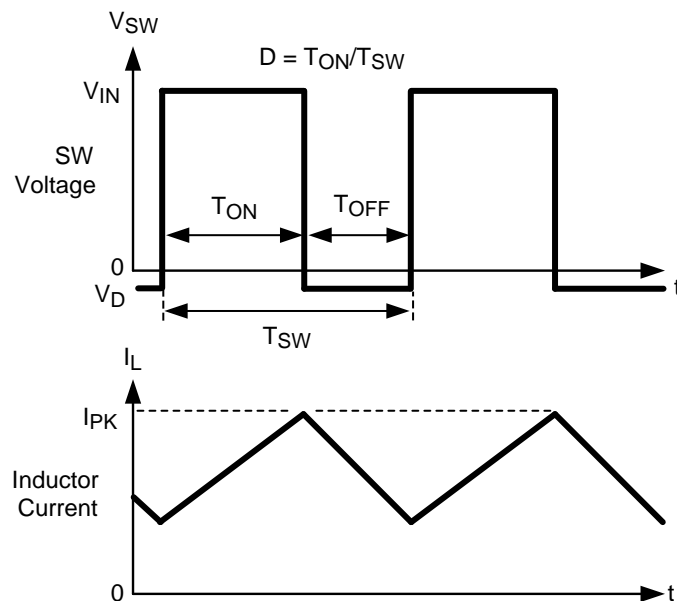

Figure 25. LM2738 Waveforms of SW Pin Voltage and Inductor Current
The LM2738 supplies a regulated output voltage by switching the internal NMOS control switch at constant frequency and variable duty cycle. A switching cycle begins at the falling edge of the reset pulse generated by the internal oscillator. When this pulse goes low, the output control logic turns on the internal NMOS control switch. During this on time, the SW pin voltage (V_{SW}) swings up to approximately V_{IN} , and the inductor current (I_L) increases with a linear slope. I_L is measured by the current-sense amplifier, which generates an output proportional to the switch current. The sense signal is summed with the regulator's corrective ramp and compared to the error amplifier's output, which is proportional to the difference between the feedback voltage and V_{REF} . When the PWM comparator output goes high, the output switch turns off until the next switching cycle begins. During the switch off-time, inductor current discharges through Schottky diode D1, which forces the SW pin to swing below ground by the forward voltage (V_D) of the catch diode. The regulator loop adjusts the duty cycle (D) to maintain a constant output voltage. See Functional Block Diagram and Figure 25.